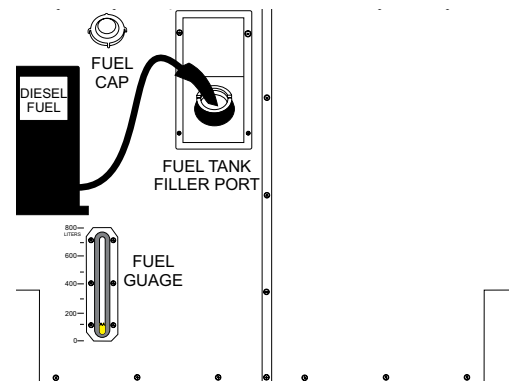

Figure 20. Fueling the Generator
3. If the fuel level is low, remove fuel cap and fill tank as shown in Figure 20.